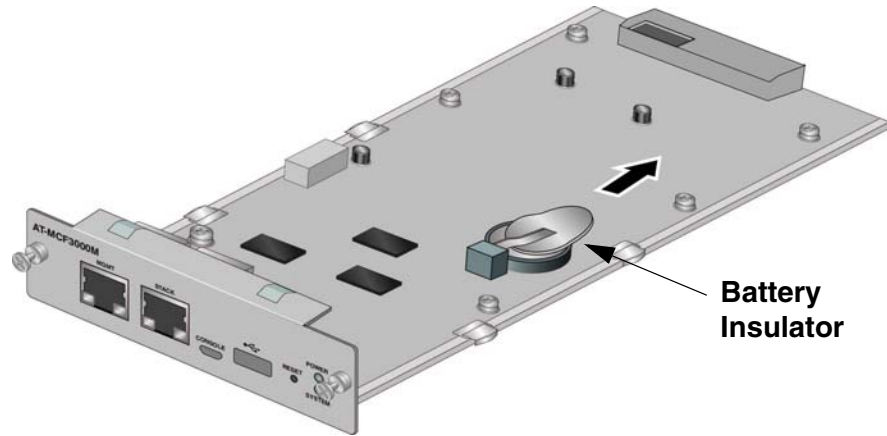

Figure 30. Removing the Battery Insulator from the MCF3000M Management Module
3. Remove the insulator labeled “REMOVE BEFORE INSTALL” from the battery on the management module by sliding it out from beneath the battery clip. Refer to Figure 30 on page 68.